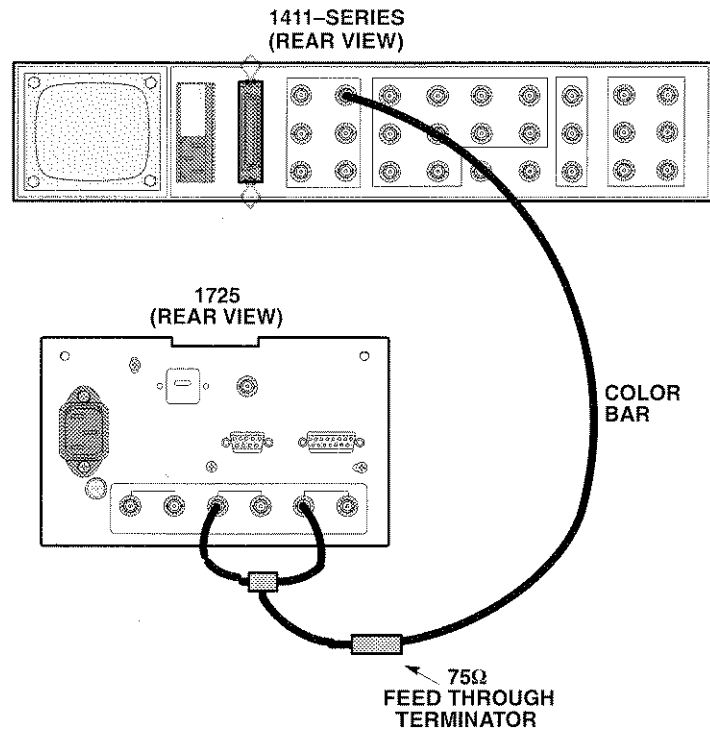

Figure 5-8: Equipment connections for checking burst jitter
- f. Move the connection from CH-A to the EXT REF. See Figure 5-8.